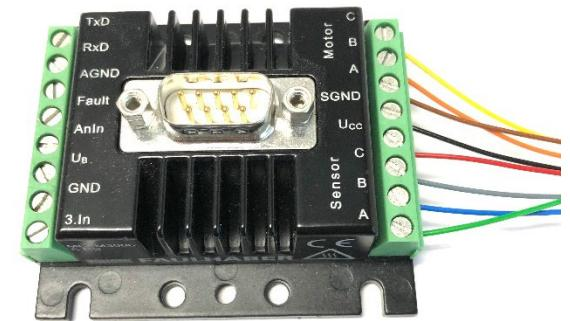

Figure 48 Top to bottom: Flexboard adapter top view, bottom view, and motor controller connections
- Plug the black receptacle on one end of the flexboard adapter cable onto the pins on the adapter board. Make sure the small key on the black receptacle is facing away from the green PCB (compare the colored wire positions in Figure 48 to confirm correct orientation)
- Insert the free ends of the colored wires of the flexboard adapter cable into the screw terminals on the motor controller. It is very important that the correct color wires go into the correct screw terminals on the motor controller. Connecting them incorrectly may damage the motor or controller. See Figure 48 for the correct order.
- See Figure 48 for the results of this step.